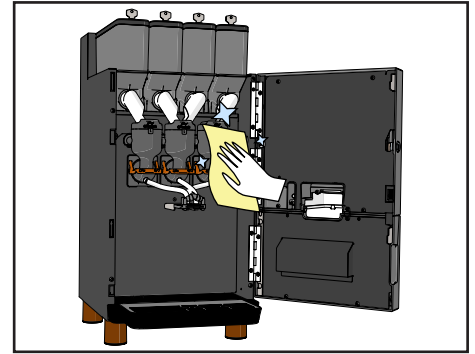

Figure 28.
13. Clean the inside of the machine (see Figure 28).